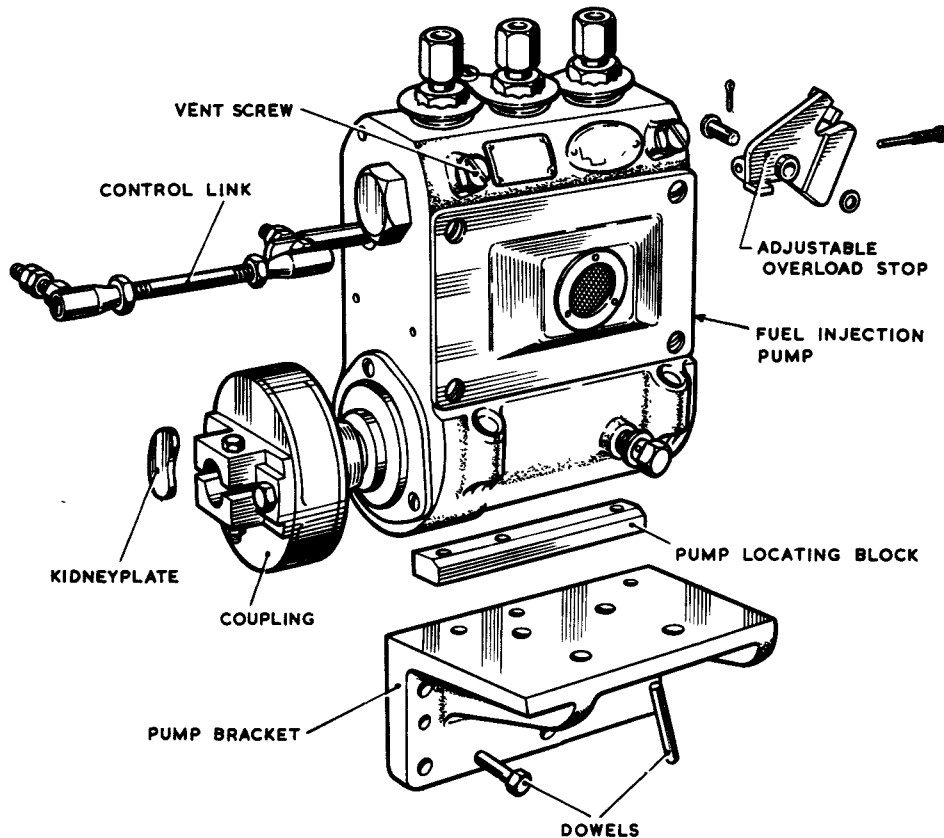

Fig.15. Fuel injection pump-external details
- (3) Remove the two vent screws (fig. 15) from the fuel injection pump, wait until bubble-free fuel appears then replace and tighten the screws.
- (4) Take off the access panel on top of the cowling. Disconnect the high-pressure pipes at the injectors.
(b) To prevent timing slip a kidney-shaped plate is fitted on the solid side of the coupling (fig. 15); such a part is drilled
The pump bracket and pump locating block need not be removed. Both parts are doweled, the block to the bracket and the bracket to the crankcase (fig. 15).